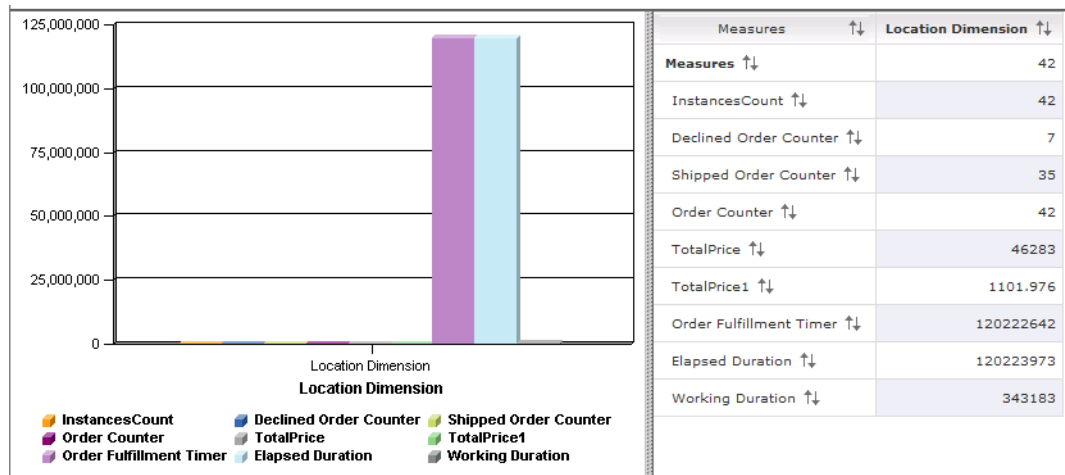

Figure 13-20 Configuring dimensions: Measures
- ▶ The measures are displayed graphically and with values (Figure 13-20). Because there is only one scale, most values are too small to be shown in the graphic.